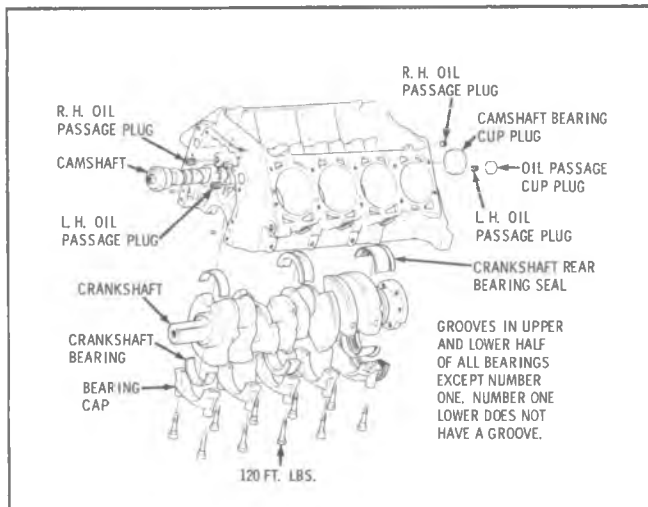

Fig. E-92—Crankshaft, Bearings and Caps
6. Torque all main bearing bolts to 120 ft. lbs. (Fig. E-92)